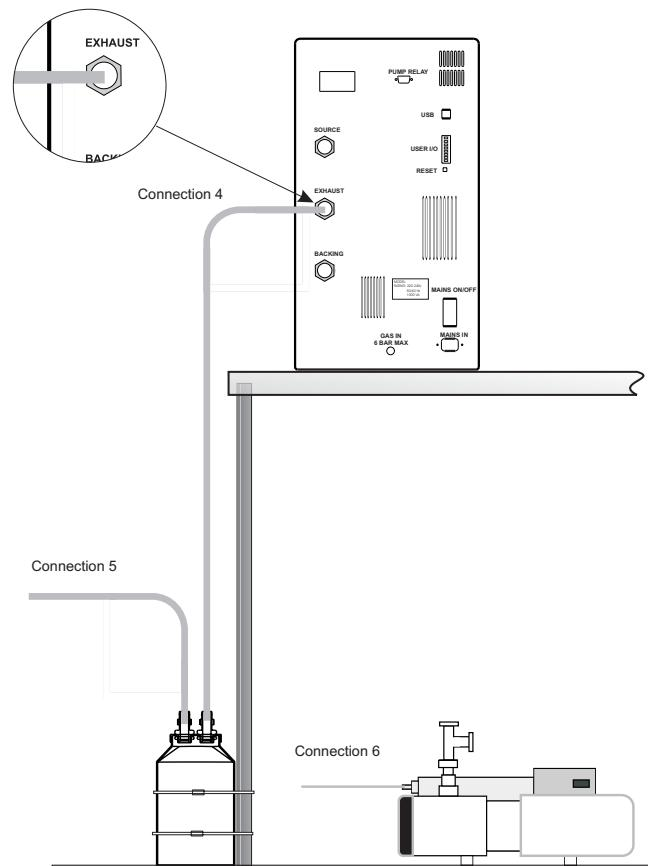

Figure 1-9. Connecting exhaust lines from the source and rotary pump—correct setup
The MSQ source exhaust consists of 3 m of $\frac{3}{4}$ " ID/26 mm OD tubing. This should be cut to length on site to fit the suitably positioned solvent trap (see Figures 1-9 and 1-10).
- Are the pipe runs as shown in Figure 1-9?
2. Set the pressure to 10 psi by pulling out the regulator adjuster on the auxiliary pressure regulator and then turning clockwise (see Figure 1-9).